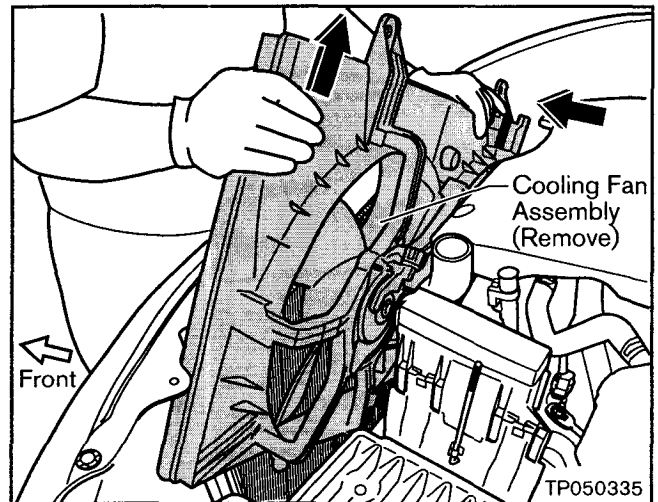

Figure 15
- c. Carefully remove the Fan Assembly by lifting it UP and towards the driver's side of the vehicle (see Figure 15).